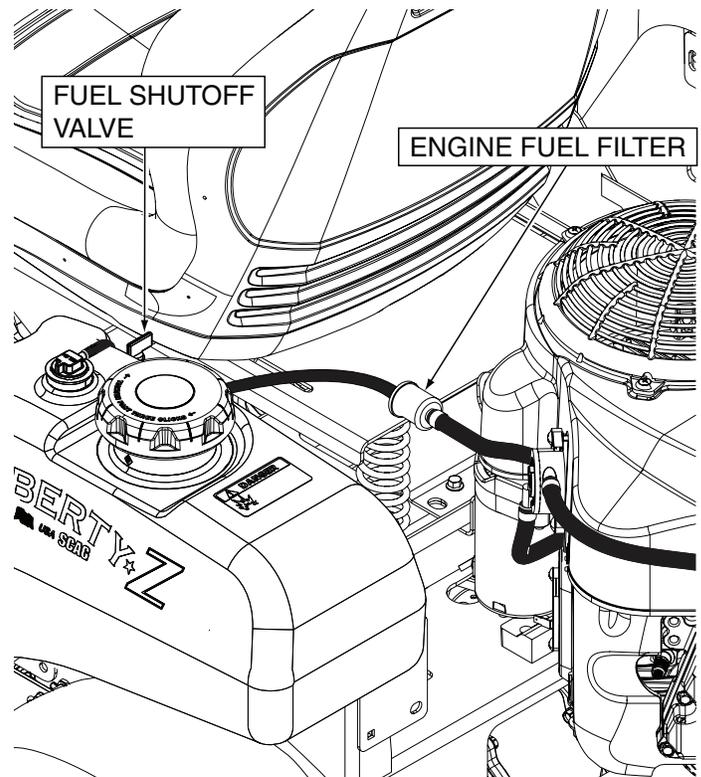

Figure 7-7. Fuel Filter
1. Close the shut-off valve. See Figure 7-7